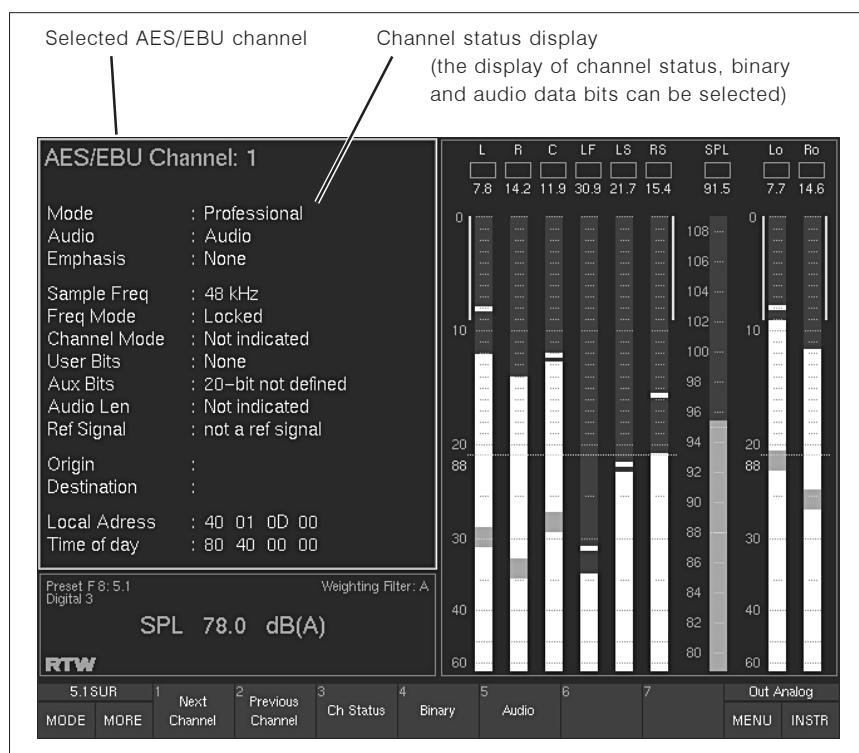

Fig. 5-42: The AES/EBU channel status monitor (AES/EBU STATUS)
(Buttons/keys 1 and 2, see Fig. 5-42)
(Button/key 3, see Fig. 5-42 – toggle function linked to Binary)
(Button/key 4, see Fig. 5-42 – toggle function linked to Ch Status)
(Button/key 5, see Fig. 5-42)